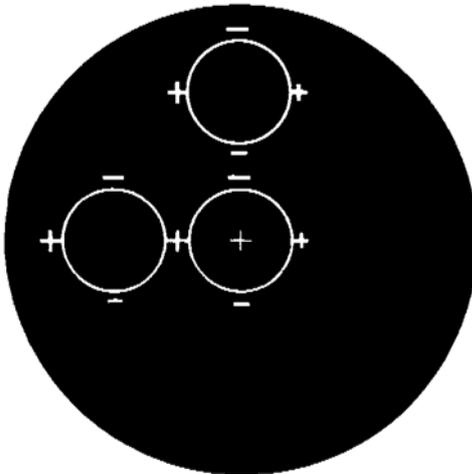

Figure 8
1. Turn the horizontal measuring drum (6), and the left-hand plus sign will move to the right or left.
2. Move this plus sign until it is exactly superimposed on the plus sign of the central focusing circle, as shown in Fig. 8. This completes the setting for the near horizontal meridian.